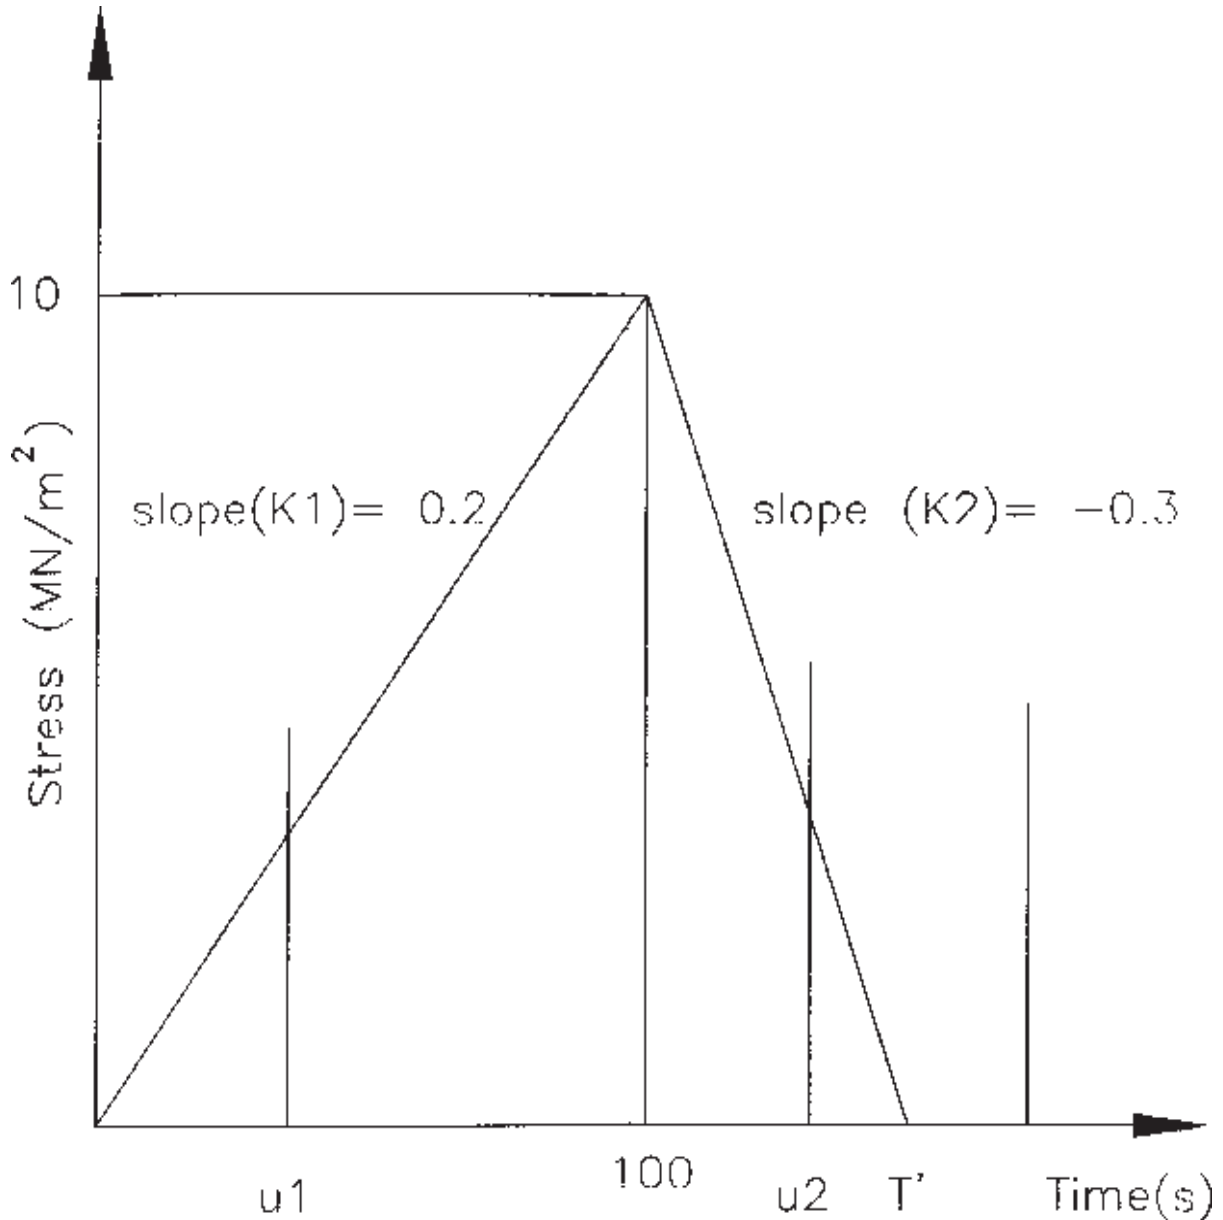

Figure 4
- Q6) a) A plastic is subjected to stress history as shown in fig.4 The behaviour of the material is as per the Maxwell model with elastic constant  $E = 25 \text{ GN/m}^2$  and viscous component  $\eta = 1200 \text{ GNs/m}^2$ . Determine strain in the material (i) after  $u_1$  seconds and (ii) after  $u_2$  seconds. [6]